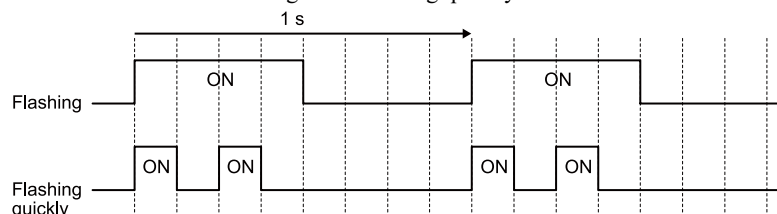

Figure 9.1 LED Flashing Statuses
*1 Refer to Figure 9.1 for the difference between “flashing” and “flashing quickly”.